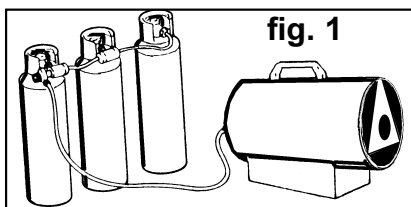

fig. 2
- 3.1.1. Locate the supply voltage selector panel (fig. 2), on the side of the base.